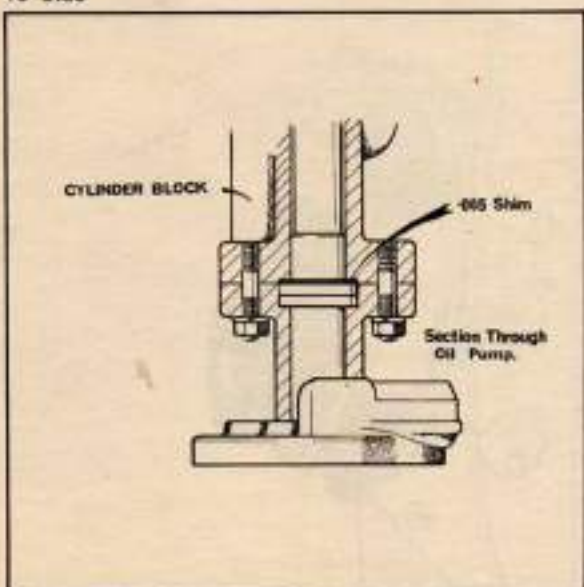

Figure 5 Oil pump driveshaft shims
- 7 Inspect oil pump and driveshaft assemblies for possible damage and renew if necessary. **Note:** In production it has sometimes been necessary to fit one or two 0.127 mm (0.005 in) shims between the oil pump driveshaft bush and the cylinder block (see **Figure 5**). It is not necessary, when dismantling the oil pump, to remove the drive bush or shim, if fitted. However, if the bush and shim are removed, it is important that they are both replaced when re-assembling the pump.